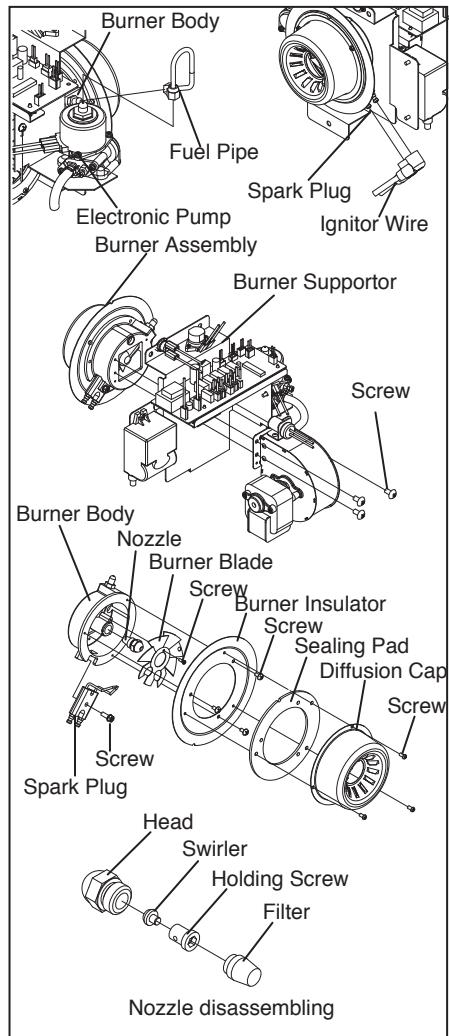

Figure 7. Nozzle Removal
- 11) Disassemble Nozzle as shown in Figure 7.